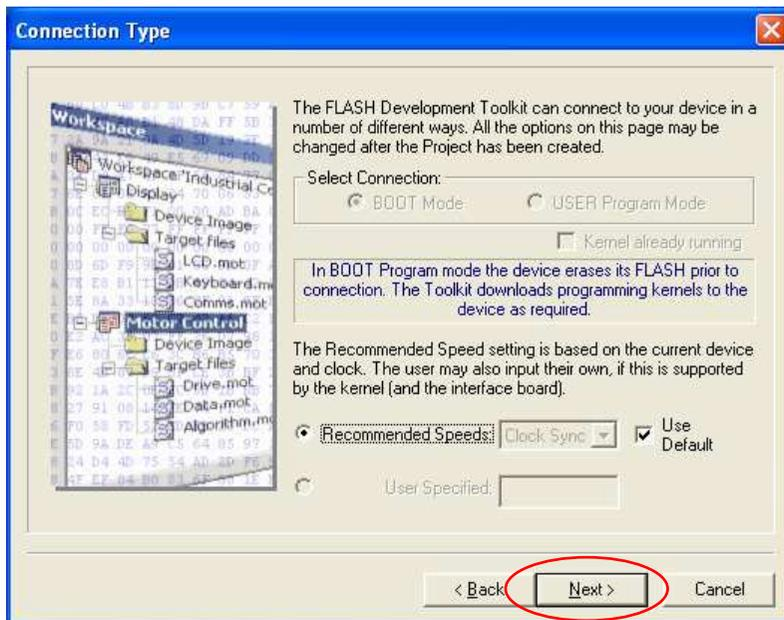

Figure 74
22. The following screen will appear. Select the default settings then 'Next' (Figure 74).